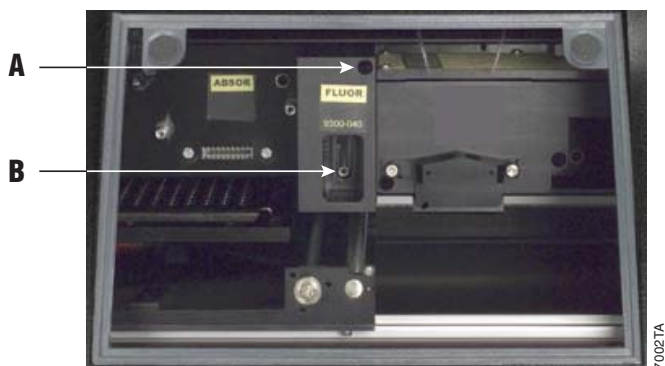

Figure 22. Arrows point to the two captive screws on the fluorescence module.
5. Hand-tighten the two captive screws using the Allen Wrench (size 7/16 inches) provided with the kit. Too much force may damage the screws. See Figure 22.